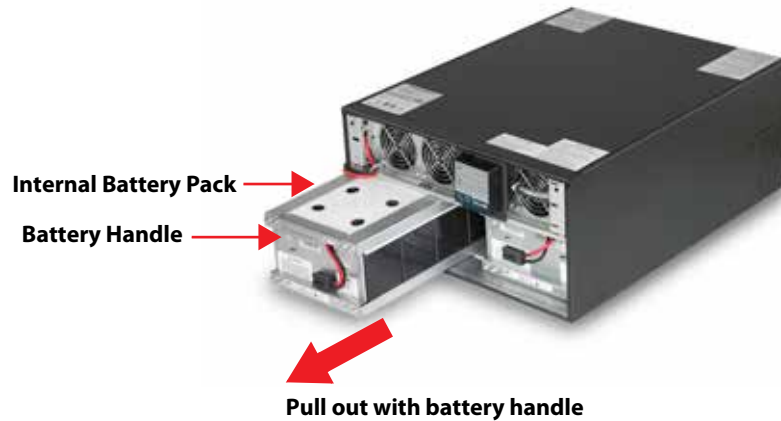

Figure 27: Pulling out the battery packs
5. Grasp the battery handle and pull one of the internal battery packs out of the UPS, as shown in Figure 27. Repeat this step if both battery packs will be replaced. Each model has two battery packs.